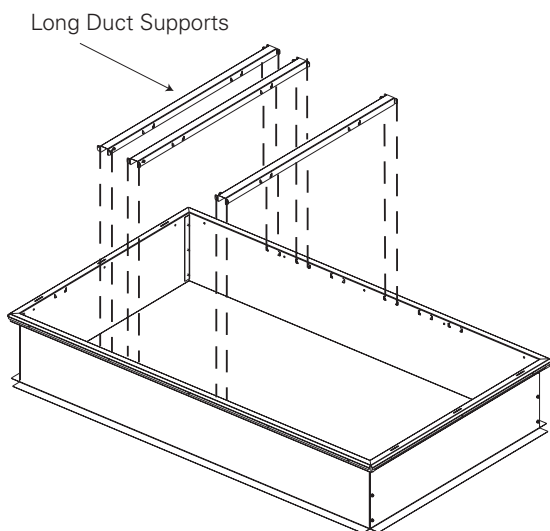

Figure 9. Step two
3. Assemble a long (46.18") duct support between the two sides (Return section): insert the first duct support 18.43 inches from either end by inserting the tabs on each end of the duct support into the appropriate triangular shaped slots. See Figure 9, p. 8. For your convenience we have provided screws and screw holes for securing each duct support. Use one screw for each end of a long duct support. These screws are not necessary for strength or function, but are to prevent accidental disassembly during duct attachment.
4. Insert the other two long duct supports as shown on the top view (Supply Section). See Figure 9, p. 8. Verify the 5.18" and 18.45" dimensions between long duct supports.